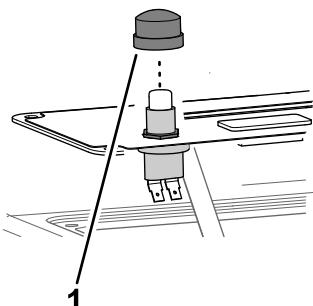

Figure 6
4. Install the button cover onto the switch (Figure 6).